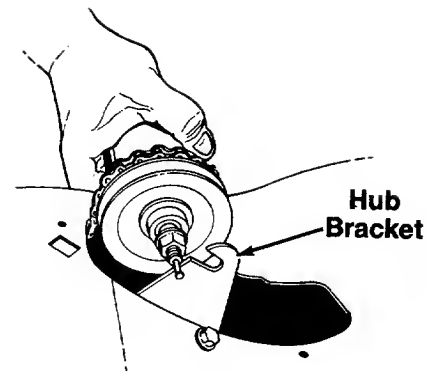

FIGURE 25.
9. Lift the three speed hub out of the three speed hub bracket. See figure 25.